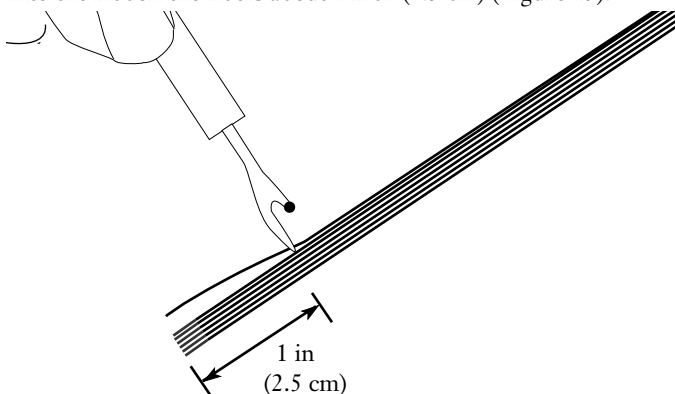

Figure 13
**6.14** Use a seam ripper to separate the fibers where you removed the bond material in step 6.13. Work the seam ripper back into the ribbon the fibers about 1 inch (2.5 cm) (Figure 13).